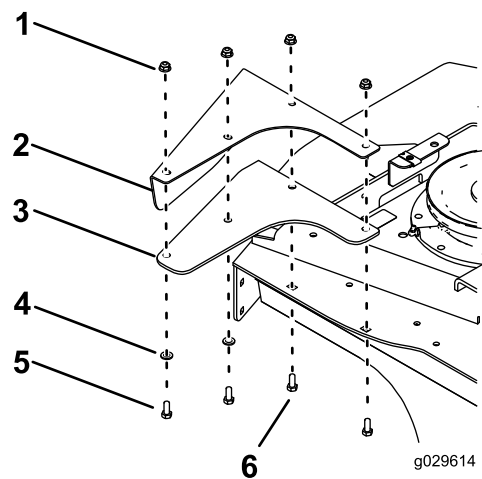

Figure 13
8. Mount the left foot shield and a deflector to the top and side of the mower deck with 2 carriage bolts (5/16 x 7/8 inch), 2 carriage bolts (5/16 x 3/4 inch), 2 washers, and 4 nuts (5/16 inch) as shown in Figure 13.